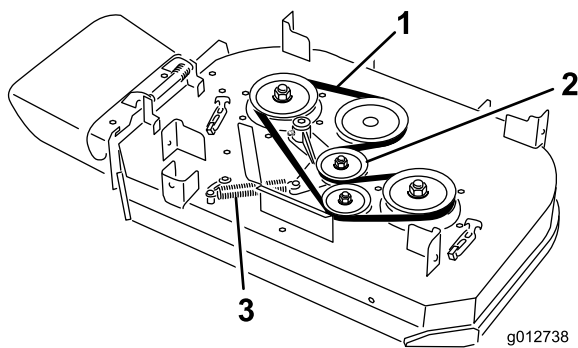

Figure 63
4. Remove the spring from the anchor post on the idler-pulley arm (Figure 63).
5. Remove the worn mower belt (Figure 63).
6. Install the new mower belt around the clutch pulley, the deck pulleys, and the idler pulley (Figure 63).
7. Install the spring onto the anchor post on the idler-pulley arm (Figure 63).
6. Install the new mower belt around the deck pulleys and idler pulley (Figure 63).
5. Remove the spring from the anchor post on the idler-pulley arm (Figure 63).
6. Remove the worn mower belt (Figure 63).
7. Install the new mower belt around the deck pulleys, the clutch pulley, and the idler pulley (Figure 63).
8. Install the spring onto the anchor post (Figure 63).